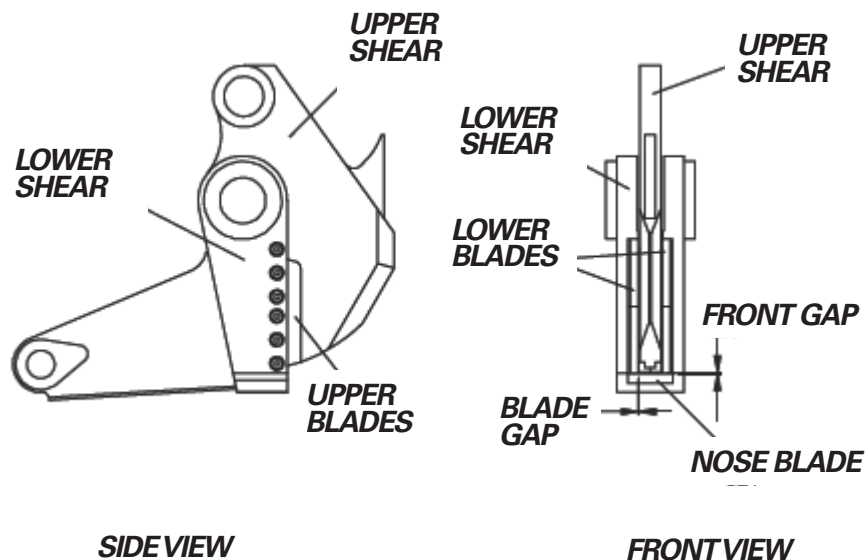

FIGURE 7-20
The blade gaps are the spaces between the upper and lower blades as they bypass (see Figure 7-20). Plate shear jaws have two blade gaps, one on each side. The blade gaps are critical to how the plate shear jaws will perform.
1. To check the blade gap, cycle the jaws closed so the upper blades bypass the lower blades (see side view of Figure 7-20). Use a feeler gauge between the upper and lower blades to check the blade gap on each side and record it. Check the gap near both ends of the blades. The gap should be even for the entire span of the blades.